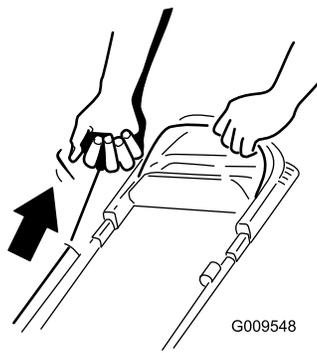

Figure 21
2. Pull the recoil-start handle (Figure 21).
**Note:** When you pull the recoil-start handle, pull it lightly until you feel resistance, then pull it sharply (Figure 21). Allow the rope to return to the handle slowly.